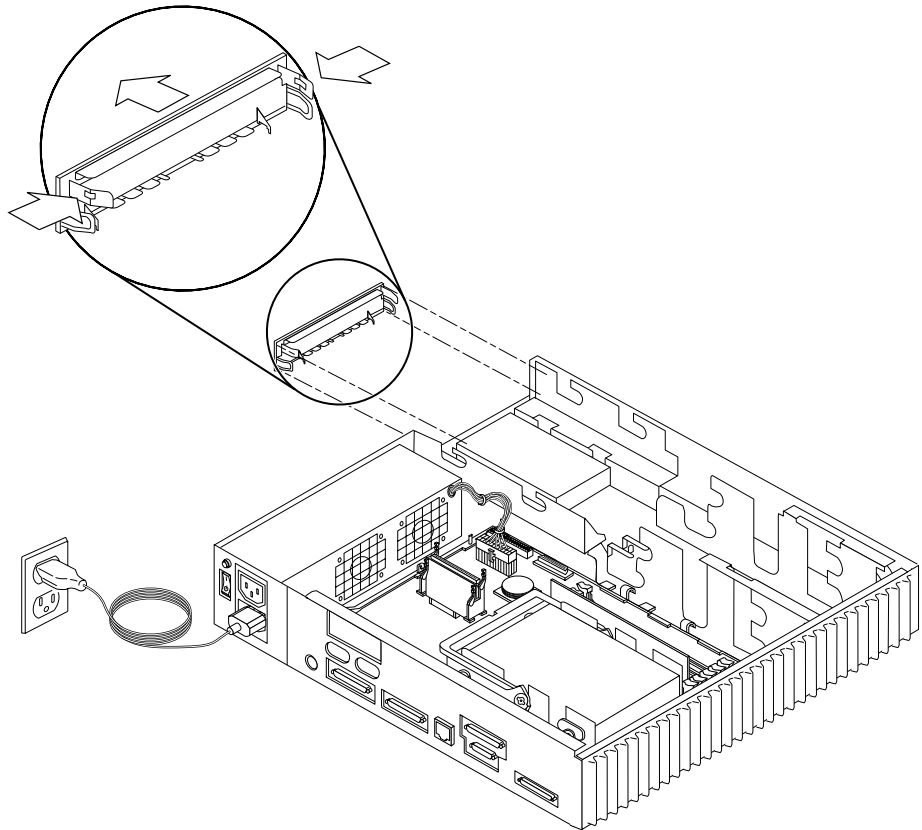

FIGURE 9-8 Removing the CD-ROM Filler Panel
3. Remove the CD-ROM drive (if installed). If the CD-ROM drive is not installed, remove the CD-ROM filler panel as shown in FIGURE 9-8.
- 8. If there is a CD-ROM drive, reinstall it. Otherwise, replace the CD-ROM drive filler panel shown in FIGURE 9-8.**